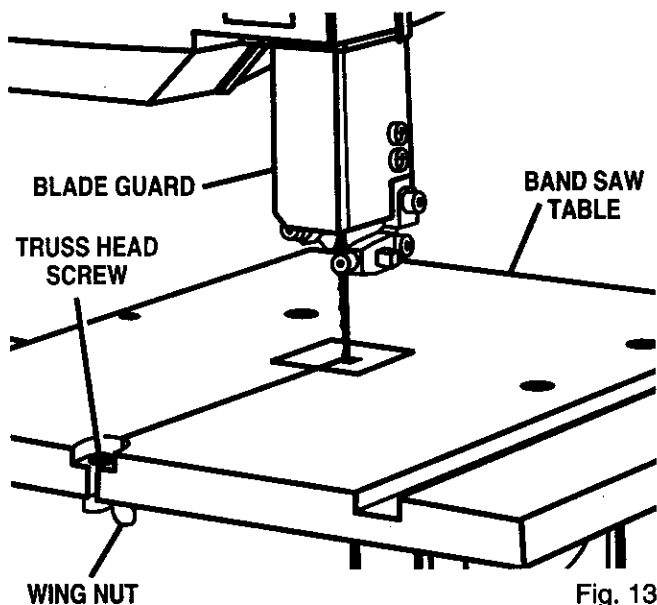

Fig. 13
See Figures 13 and 14.
- Loosen and remove the wing nut and truss head screw from the table. See Figure 13.